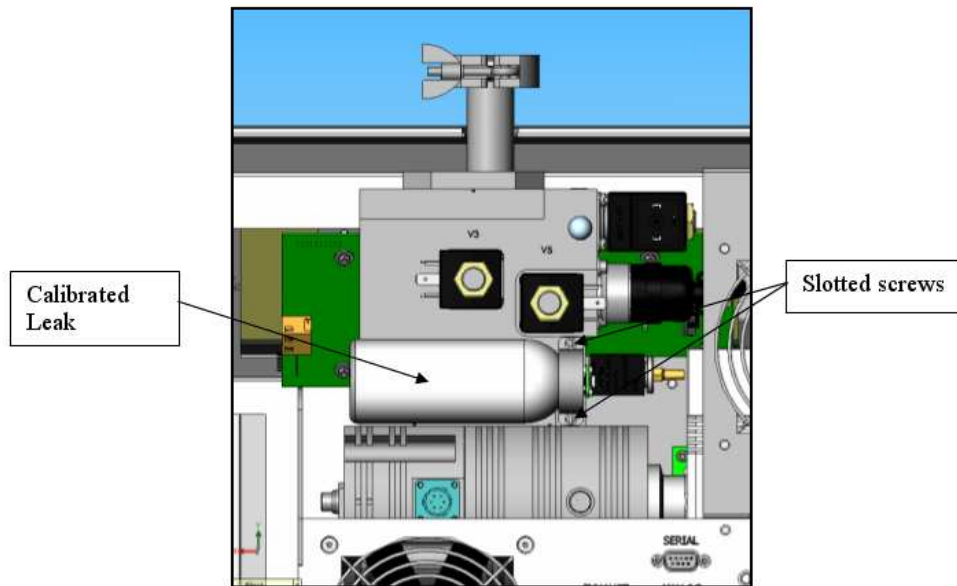

Figure 2: Calibrated Leak Location
5. Using a slotted screwdriver, remove the two screws holding the calibrated leak in place (Figure 2: Calibrated Leak Location).
8. Install the O-ring in the groove and then assemble the replacement calibrated leak to the valve block using a slotted screwdriver (Figure 2: Calibrated Leak Location).